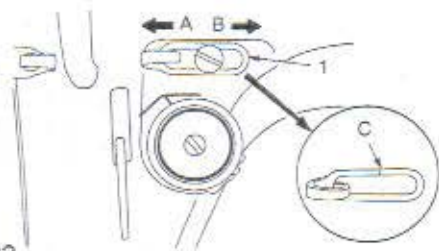

Fig.22
- 1) Loosen setscrew ①. And adjust the presser foot height and the angle of the presser foot.
- 2) After adjustment, securely tighten the set screw ①.
16. ADJUSTING THE THREAD TAKE-UP STROKE(Fig.22)